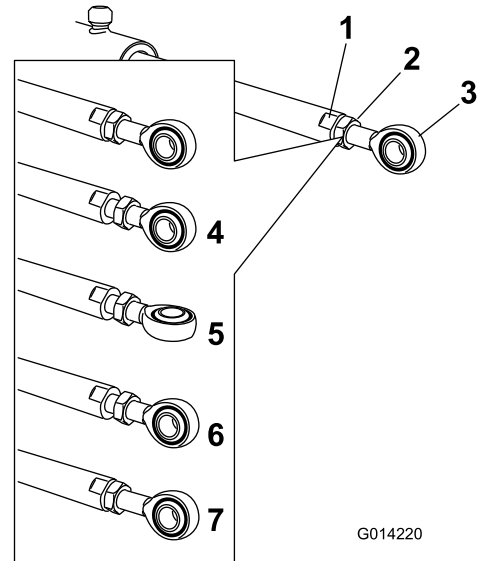

Figure 94
4. Use a wrench on the flat sides of the actuator rod to immobilize it, then loosen the jam nut to manipulate the eyelet rod (Figure 94).
5. Turn the eyelet rod in the actuator rod to shorten or lengthen the extended actuator to the desired position (Figure 94).